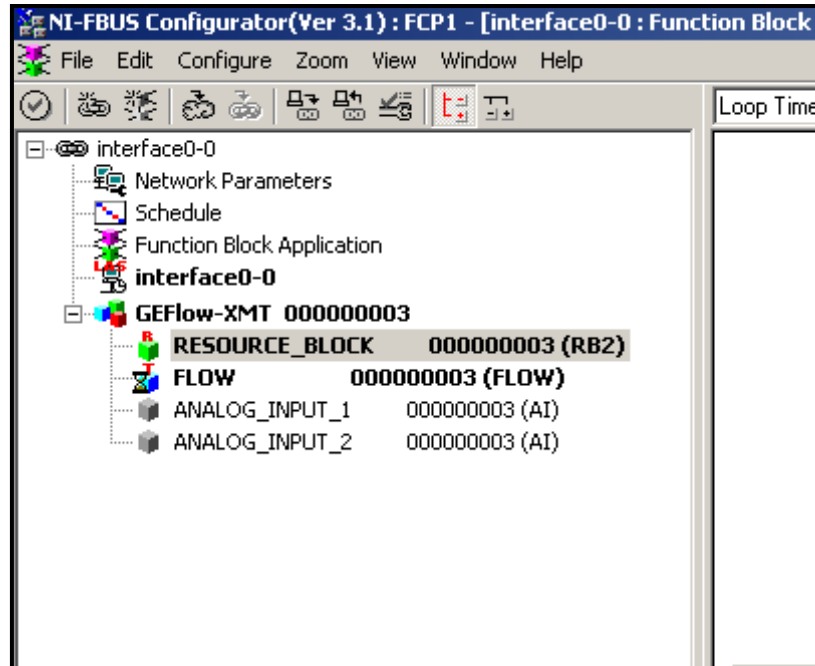

Figure 39: Configuration Utility Setup Example
Figure 39 below shows the Configuration Utility with a flowmeter on the network (Panametrics Flow-XMT).
1. Double click on the AI block for which you wish to set the units (ANALOG_INPUT_1 or ANALOG_INPUT_2 in the tree under GEFLOW-XMT; see Figure 39 on page 108).
1. Double click on the FLOW transducer block (in the tree under GEFLOW-XMT; see Figure 39 on page 108).